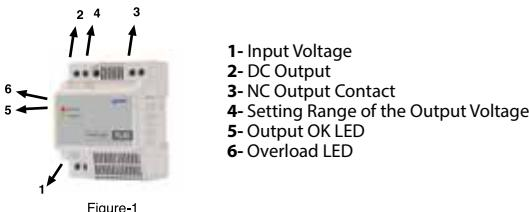

Figure-1
- Mounting of the device must be done vertically as shown in Figure-1, with AC supply input at the bottom side and the DC output at the top side.
1.3 Operation : The part of the device which is numbered as 1 in Figure-1 is the input voltage connection point of PS-362 and it is shown with L (Line) and N (Neutral) on the device body. Connect the supply voltage to these points. The part of the device which is numbered as 2 in Figure-1 is the DC output connection point of PS-362 and its polarity is shown with + and - on the device body. PS-362 supplies adjustable DC voltage from these connection points. When supply voltage is applied to PS-362, the yellow LED which is numbered as 5 in Figure-1 will light up. When this LED is lit, it indicates that PS-362 is working and it generates an output voltage. The part of the device which is numbered as 4 in Figure-1 is the DC voltage adjustment trimpot of the device. After the device has been energized, the output voltage is increased by turning the adjustment trimpot clockwise and is decreased by turning the adjustment trimpot is turned counterclockwise. This way, the output voltage can be adjusted in the specified range. The device will turn itself off to protect itself during cases of overload, overheating and shortcircuit at the output contacts. When the error state is resolved, it will activate itself automatically.
PS-362 has LED indicator (Parts 5 and 6 in Figure-1).